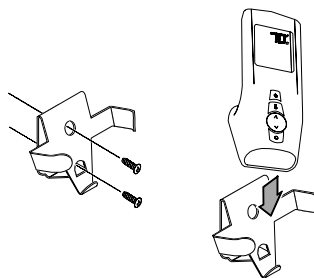

Figure 34
- 22 A wall mount is included with this kit for the remote. It may be mounted to the wall for easy access and storage. Use the included drywall anchors (and screws) to secure it to the wall (see Figure 34).